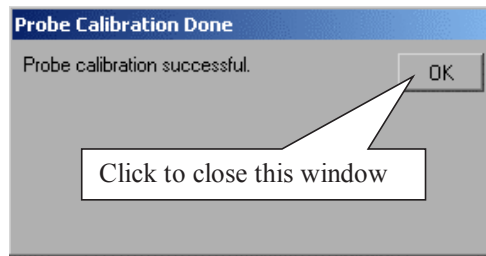

Figure 116 Probe Calibration Done Window.
- 7 Referring to Figure 116 below, perform the following steps: